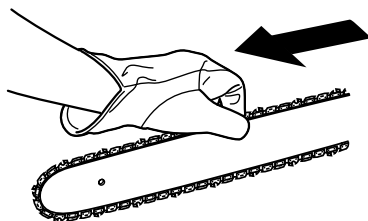

Fig. 28
- The chain is correctly tensioned when there is no sag on the underside of the guide bar, and when the chain is snug, but can be turned by hand without binding. (See Fig.28)